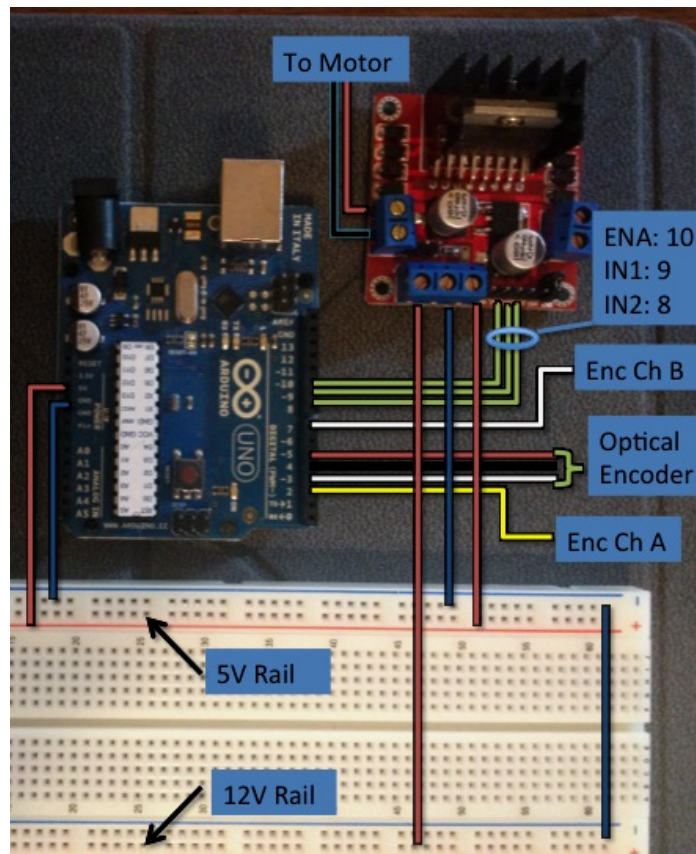

Figure 6: Wiring Diagram
3. Make connections as shown in Figure 6.
- 3.6.2. Use a wire to jump the grounds together from each rail of the breadboard (see the lower right corner of Figure 6).